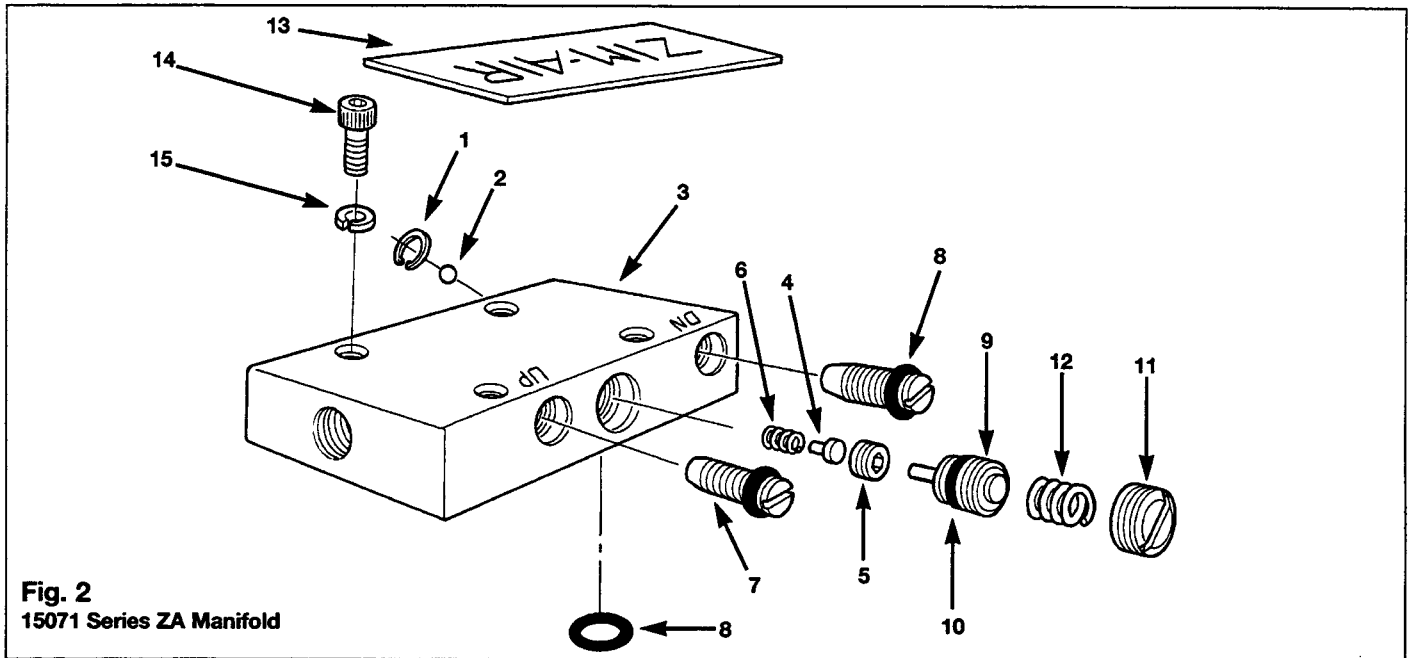

Fig. 2
2. Turn the hook balance adjustment screw (Fig. 2 IT.11) counter-clockwise until the head of the screw is flush with the top surface of the manifold body.
Disassembly Refer to Fig. 2.